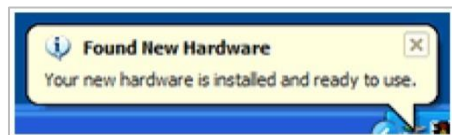

Figure 1: Desktop Notification for Driver Installation
1. Connect a USB Cable from PC to the torque device. The HID driver will self-install and prompt you when the process is complete (*See Figure 1*).